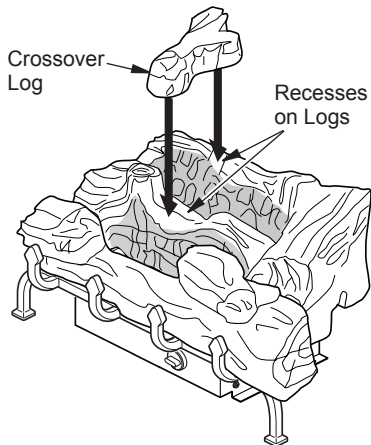

Figure 20 - Installing Crossover Log (#3)
3. Place crossover log onto recesses on main log and front log (see Figure 20).